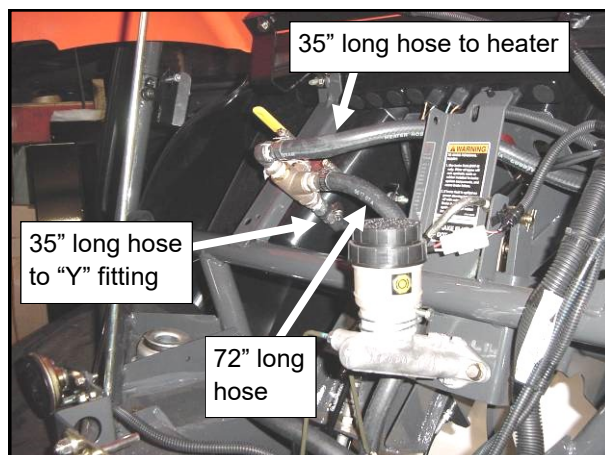

Fig. 3.7 (view from front of vehicle)
3.7 Connect the end of the 72" long hose to the middle port of the diverter valve (as shown in fig. 3.7). See the flow diagram on the next page. Use a supplied hose clamp.